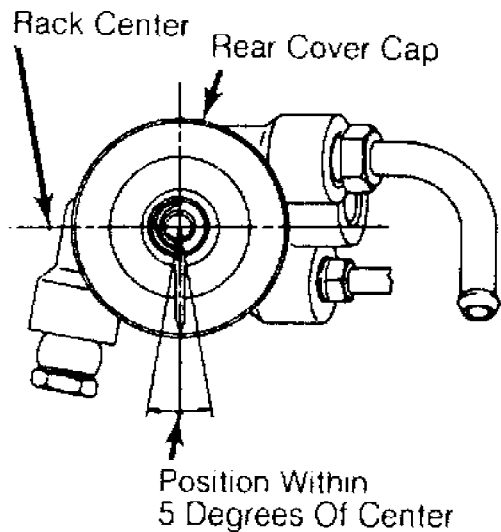

Fig. 3: Installing Rear Cover Cap (Pulsar NX & Sentra)
13) Install rear cover cap so center indicator is toward front of vehicle. See Fig. 3. Install adjusting screw. With rack in center position, tighten adjusting screw to 43 INCH lbs. (5 N.m) twice.